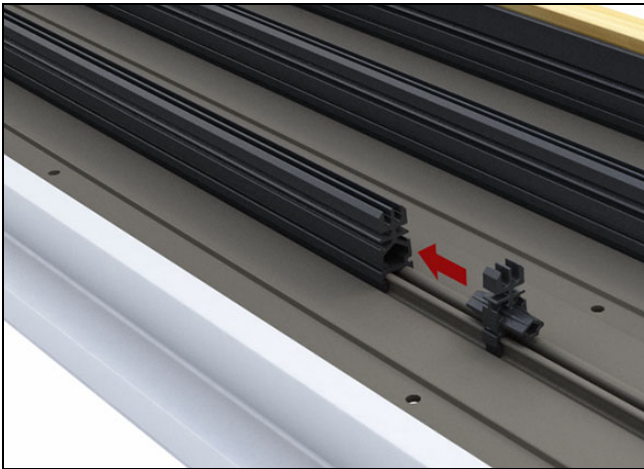

Figure 9
2. Insert frame connector splice key into the frame connector(s). See figure 9.